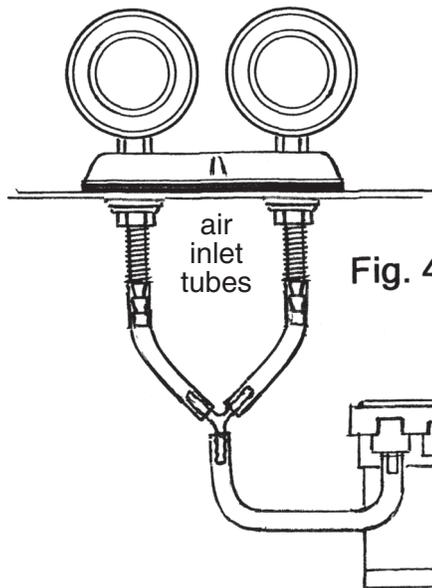

Fig. 4
9. Using the plastic tubing provided, cut to size, connect the compressor to the two air inlets using the "Y" connector provided as shown in Fig. 4.